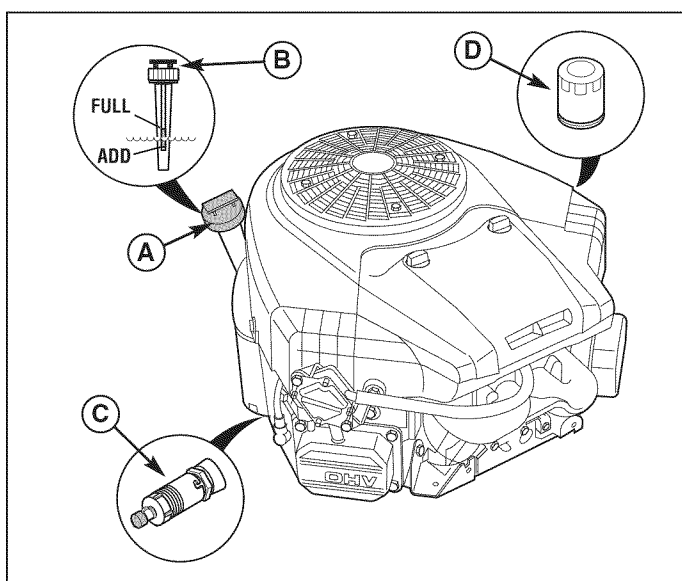

Figure 2. Check & Fill Engine Oil
2. Clean the area around the dip stick (A, Figure 2).